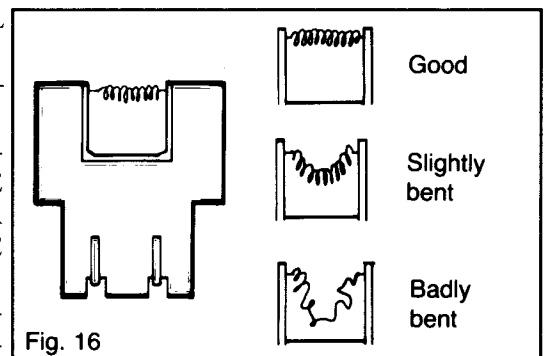

Fig. 16
2. Is filament deformed? If slightly bent, it may be possible to repair with a match or toothpick. If badly bent, glow plug must be replaced. (See Fig. 16.)